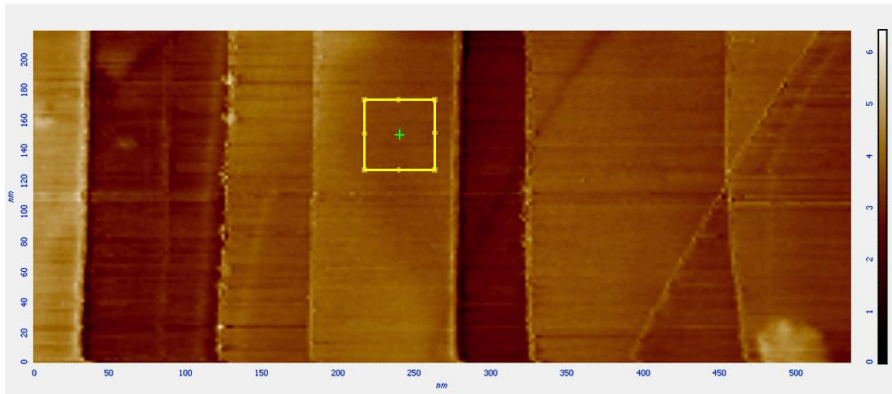

Fig. 10-22
- b) Select the scan area by moving the selection frame with the mouse in the latest scan (Fig. 10-22). It is recommended that the scan area is located close to the center of the scan and the sample landscape is smooth inside this area.